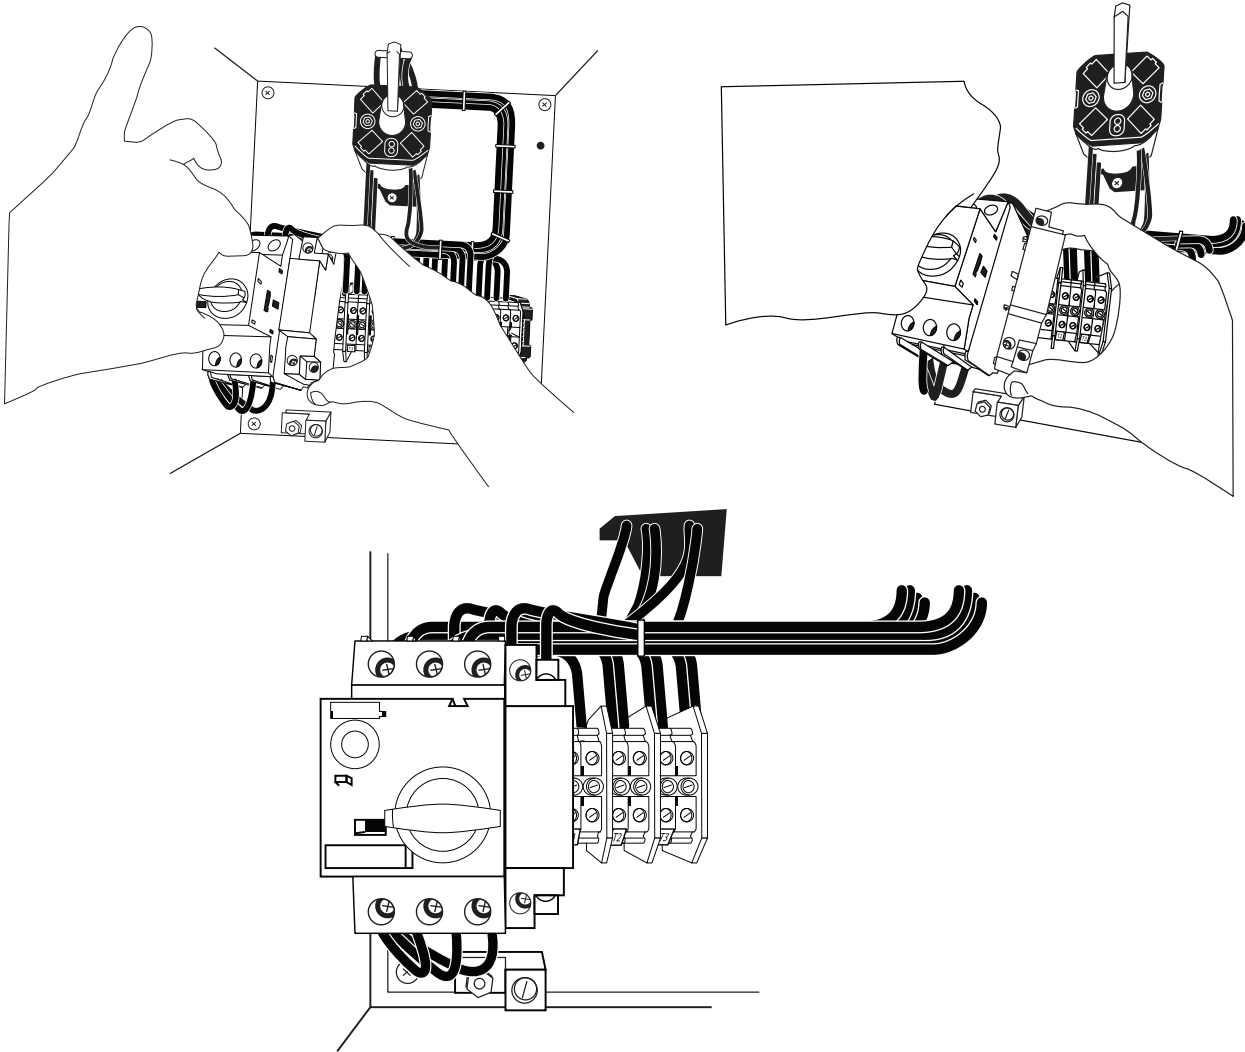

Fig. 121 — Connecting Shunt Trip Device to MMS
4. Install the shunt trip into the MMS as shown in Fig. 121.